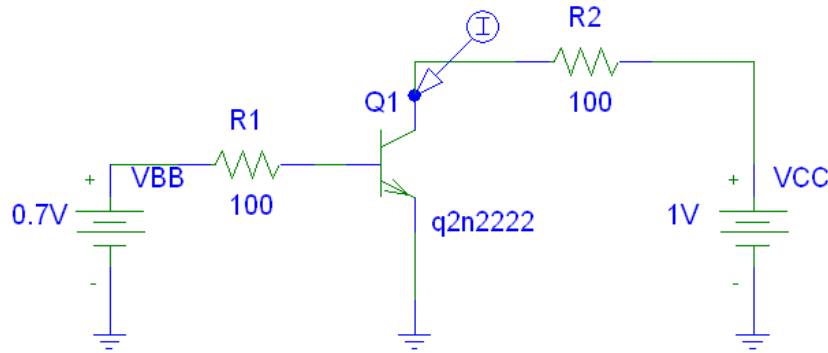

Fig. 4. BJT transistor circuit 2
1. Obtain the value of  $I_S$  from a simple simulation of the transistor: using the setup of Fig 4, excluding the resistors, apply  $V_{BB}=0.65V$ , measure  $I_C$  while  $V_{CE} > 0.5$  V and use equation 1. Assume that  $n=1$ . Use the Q2N2222 BJT in the simulation;
5. Construct the circuit shown in Fig. 4 in Pspice. Place a current marker on the collector of the Q2N2222. Run a DC Sweep on the  $V_{BB}$  voltage source to generate the input characteristics. Do a linear sweep starting at 0 and ending 2V with a linear increment of 5mV. **Modify the x-axis variable to be the  $V_{BE}$  voltage, not  $V_{BB}$ .** Comment on your results for all regions of the plot.